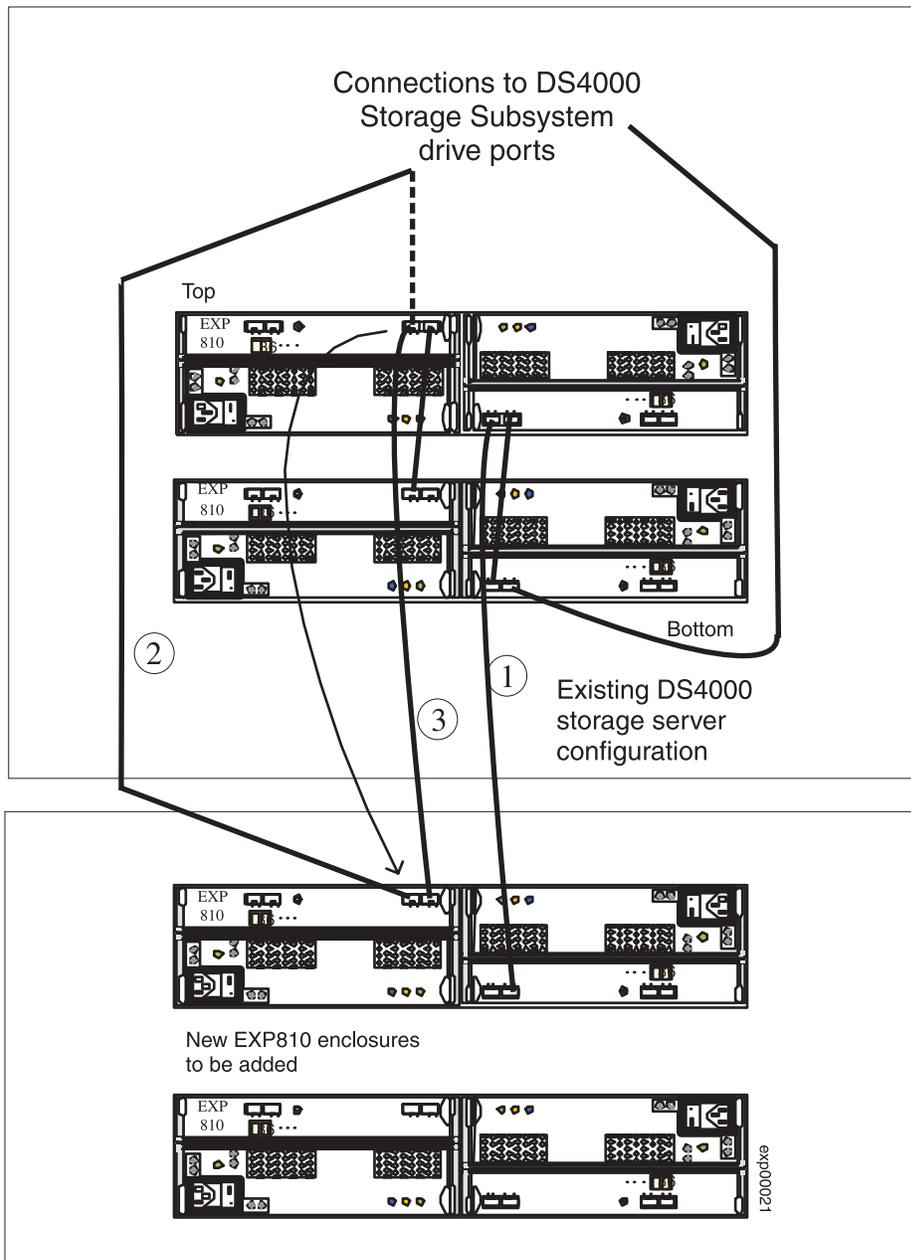

Figure 31. Cabling an EXP810 to the top of a functioning drive loop
- Top (beginning) of a drive loop, see Figure 31 on page 86.
**Note:** The port name on an EXP810 is not labeled OUT. See Figure 31 on page 86 for details.
**Note:** The port name on an EXP810 is not labeled IN. See Figure 31 on page 86 for details.